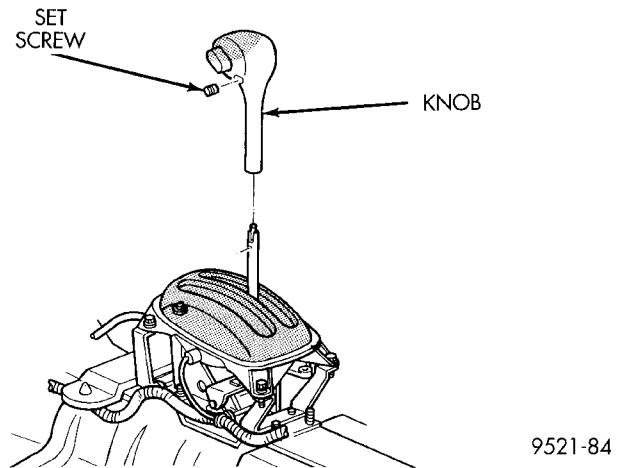

Fig. 20 Gearshift Handle
(1) Disconnect and isolate, the battery negative (-) cable from the vehicle battery.
(2) Remove console assembly. Refer to Group 23, Body.
(3) Remove the gearshift knob set screw and knob (Fig. 20).